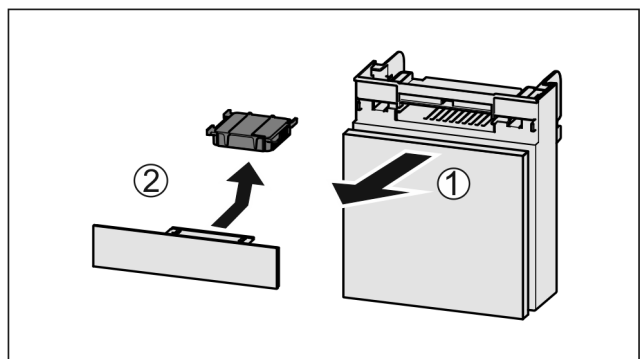

Fig. 192
- ▶ Pull out the compartment Fig. 192 (1).
- ▶ Remove the carbon filter Fig. 192 (2).